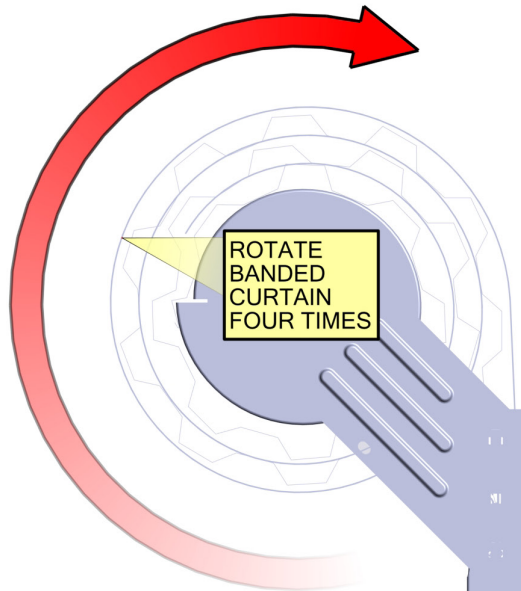

FIG 14
- Rotate banded curtain, as shown in Figure 14 and wind four initial turns. Use the bottom bar as the reference point in measuring the initial turns.
- C. Rotate curtain to remove the initial turns put on. Rotate curtain opposite to Figure 14.
- F. Rotate curtain and feed bottom bar into guides. See Figure 14. Repeat steps as necessary.